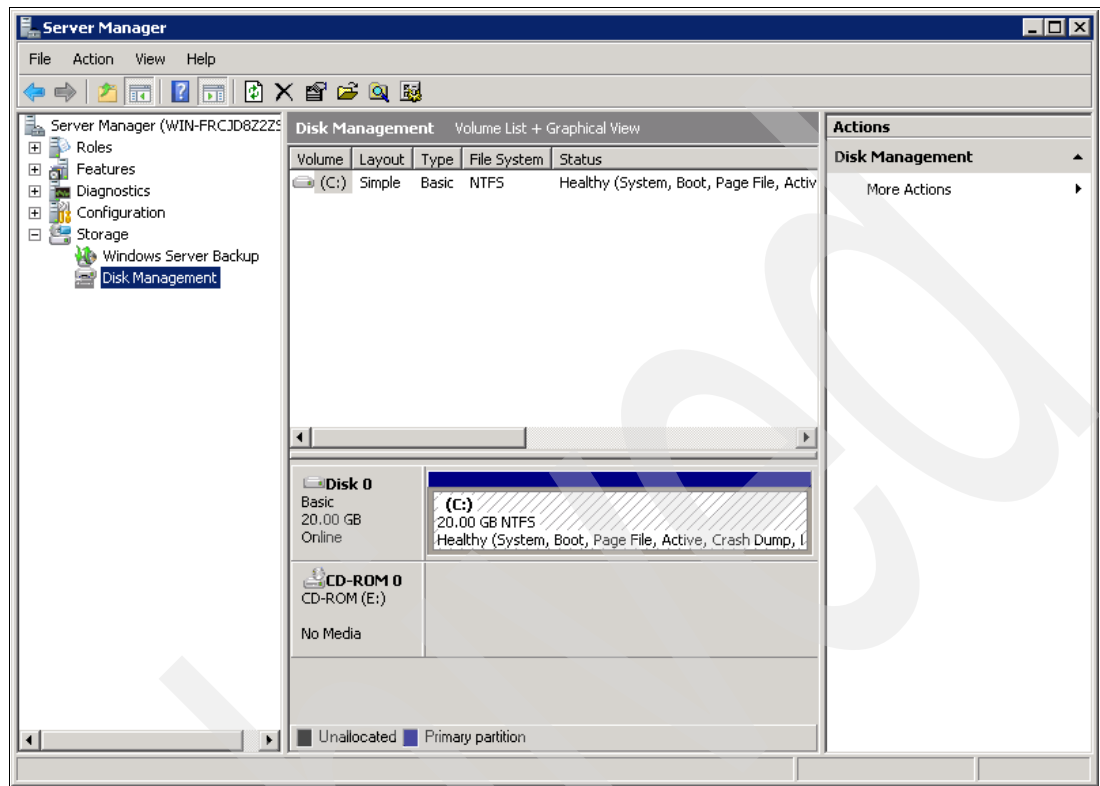

Figure 27-40 Confirming single boot volume
2. Once Windows Server 2008 is booted up, verify in Windows 2008 Disk Management that only a single disk is seen as the boot volume, in our example, a 20 GB disk, as shown in Figure 27-40. This confirms that the Multi-Path driver is installed successfully.